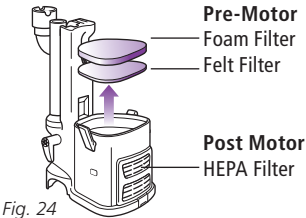

Fig. 24
- 2 Pull the 2 filters out from the top of the motor base. **(Fig. 24)**